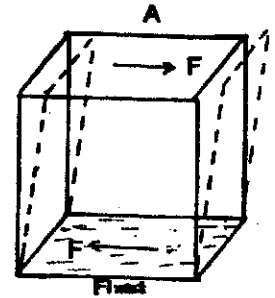

Fig.8.5: Shearing Stress change in shape without change of volume
- (iii) **Shearing Stress** : If the deforming forces act tangentially or parallel to the surface (fig. 8.5) so that shape of the body changes without change in volume, the stress is called shearing stress.